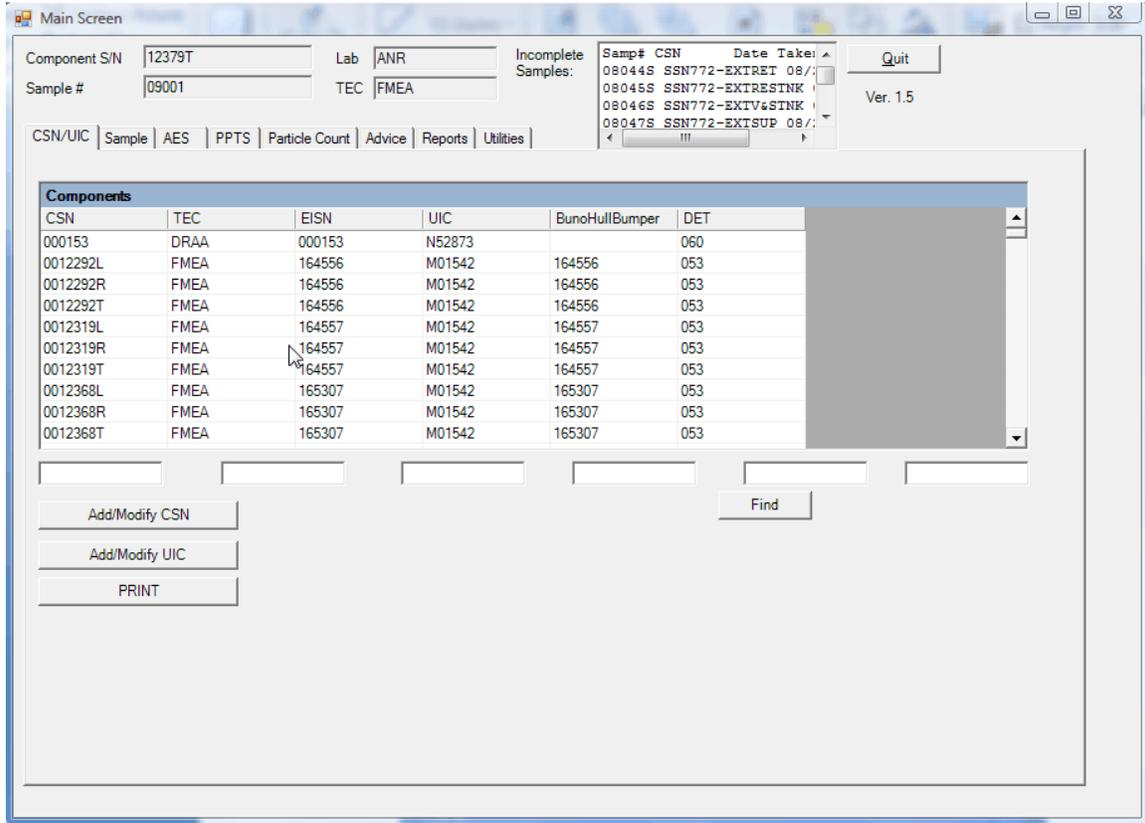

Figure 36. CSN/UIC Tab
(1) From the main screen press the CSN/UIC tab and the following screen will appear (Figure 36).